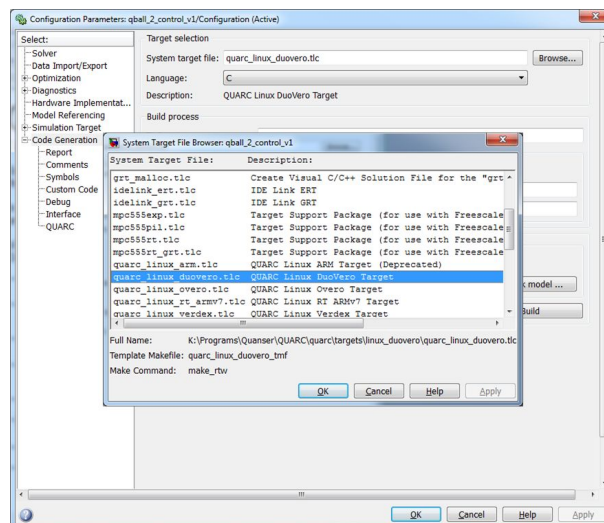

Figure 3.6: **QUARC®** Option Menu
3. The System target file under **Code Generation** should be `quarc_linux_duovero.tlc`. Browse through the system target list to locate the proper file if necessary (Figure 3.6).